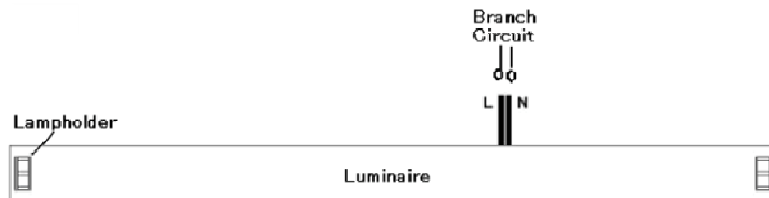

Figure 2
STEP 3: Disconnect luminaire supply wirings L and N to branch circuit as shown in Figure 2.